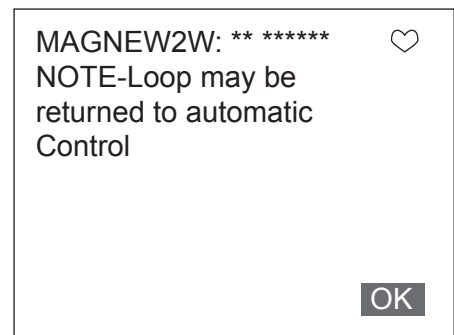

Figure 7-66
3. Note of caution will appear as shown in Figure 7-66. To proceed, press F4 (OK).